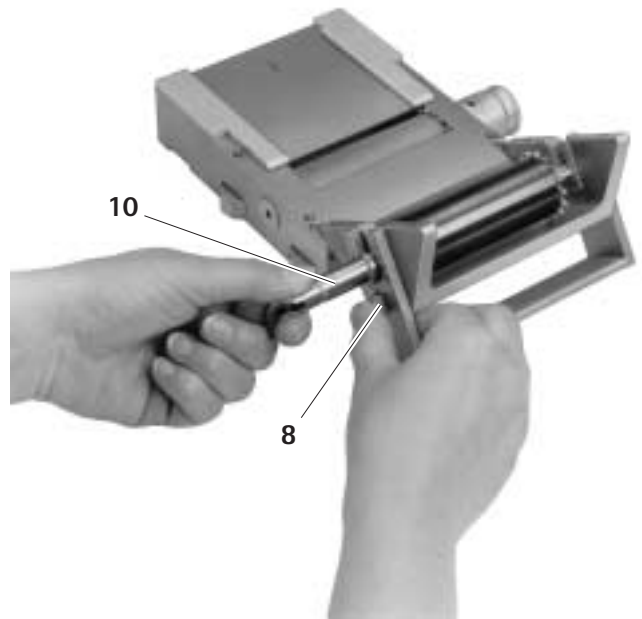

Fig. 3
- Hold down lock **8** and, at the same time, pull at shaft **10** to decouple cutting cylinder **2**, see Fig. 3.
- Hold cutting cylinder **2** at shaft **10** and press it into bearings **20** until it clicks into position, see Fig. 3.